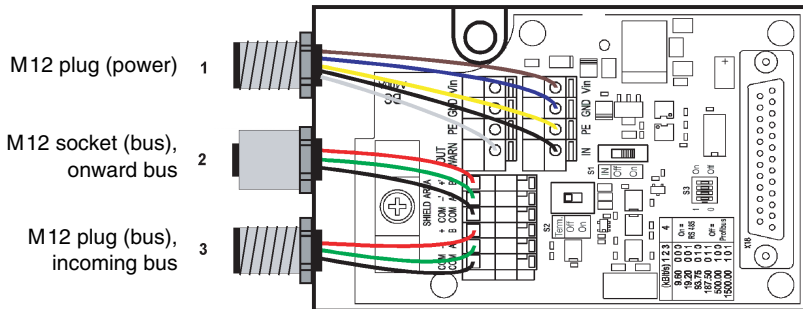

Figure 5.2: Installation and connection of the optional M12 connectors
5. Connect cables acc. to figure 5.2 and Table 5.1.